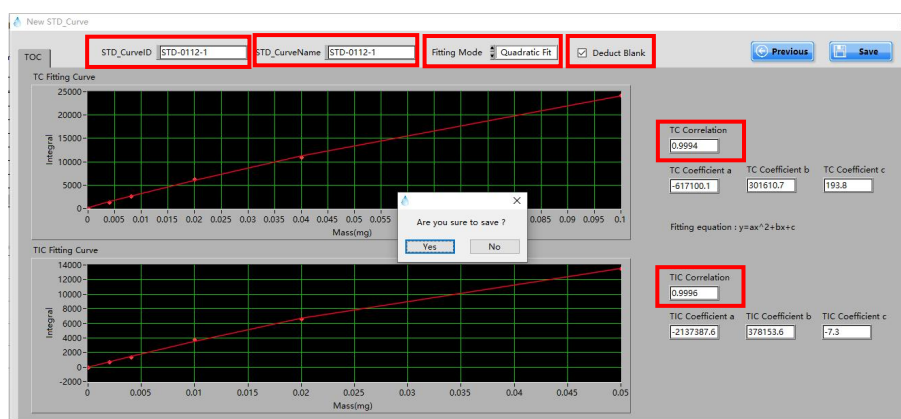

Fig 4.20
Step 7 Click  to enter the standard curve saving interface (Fig. 4.20). Input the standard curve ID and standard curve name, select fitting mode as 'Quadratic Fit', the correlation coefficient should be no less than 0.999. Whether to deduct the blank value or not depends on the actual demands.